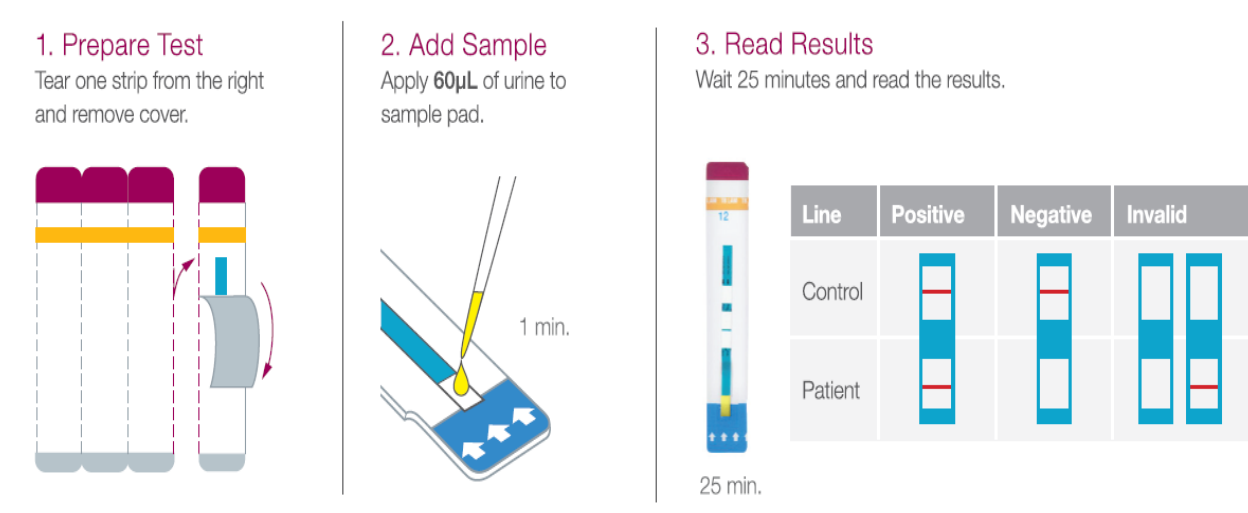

Figure 1 TB LAM Ag testing procedure
- 8.2.2 Remove the protective foil cover from each test. Label the cryovial tube identical with EDTA tube containing the patient blood to be analyzed. See figure 1.